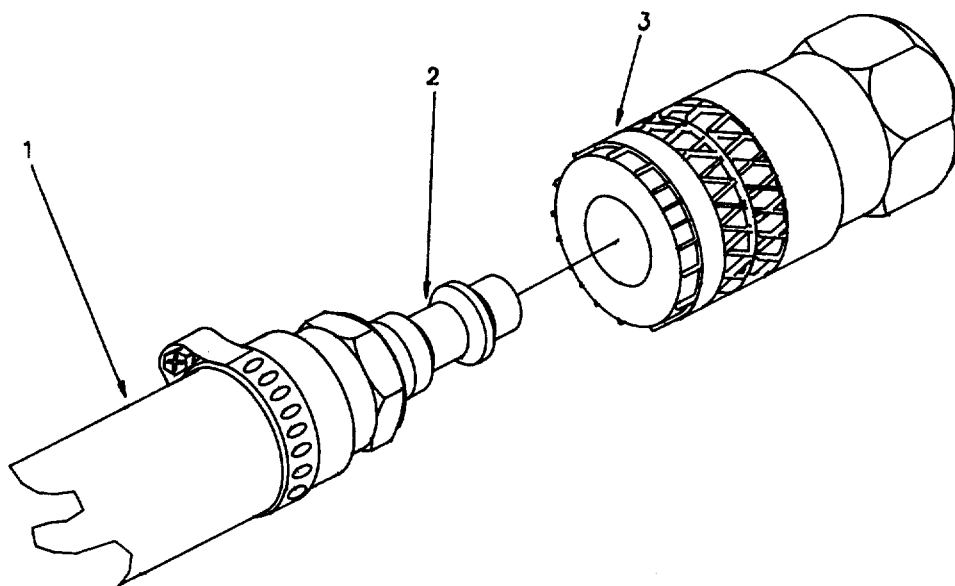

Figure 2-17. Hose Adaptors and Nonmetallic Hose.
- c. Push hose adaptor (2, Figure 2-17) of nonmetallic hose (1) into hose adaptor (3).